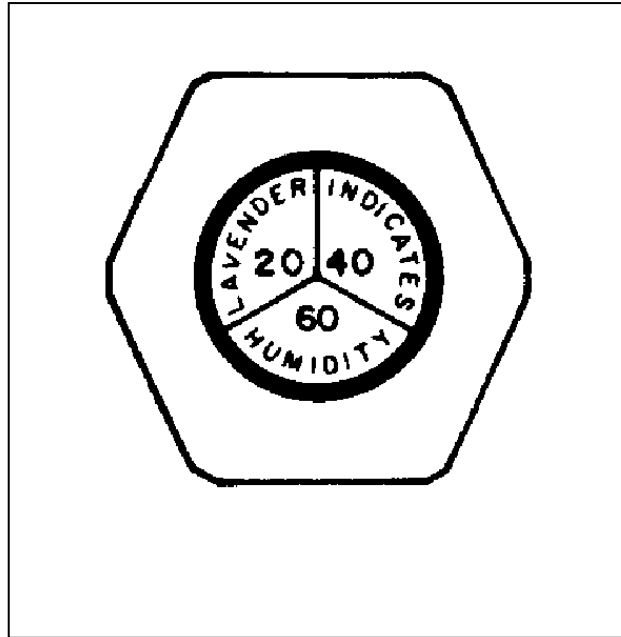

Figure G-3. GM canister humidity indicator.
4. GM Canister Humidity Indicator. Ensure that the humidity indicator on the canister instrument panel shows a light to dark blue color in all sectors (20, 40, and 60) (Figure G-3).